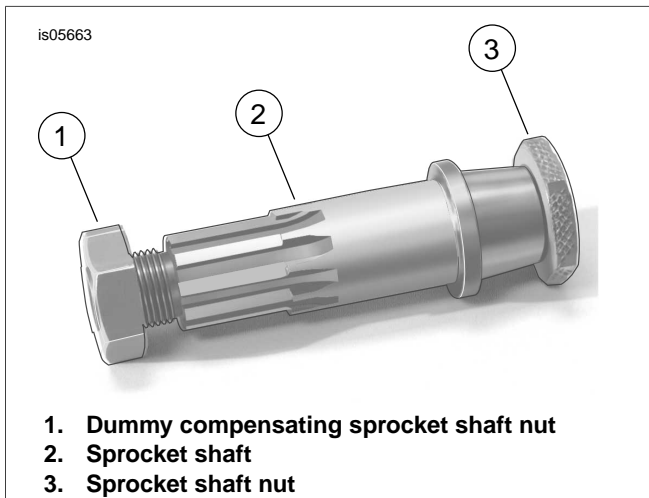

Figure 14. Dummy Sprocket Shaft and Nut
- b. See Figure 14. Obtain a dummy compensating sprocket shaft nut (part number HD-40392-91 or 7/8 inch-14 nut from hardware store), spacer sleeve and flat washer. To verify complete thread engagement when nut is installed, spacer sleeve must be about 2-1/4 inch long with a 1-3/4 inch OD and a 1-1/4 in. ID Flat washer must be large enough to allow nut to rest flat against spacer sleeve.